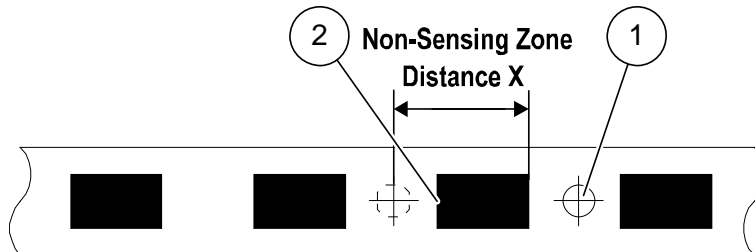

Figure 7-64 Non-Sensing Zone
Step 3: Set the "Non-Sensing Zone" to the value of X shown in Figure 7-64; (Step c in Figure 7-62)
For example, if material belt stays at the position shown in Figure 7-64 and the "Non-Sensing Zone" is set to X, then the borderline detected within the separation distance X is invalid after the borderline from white to black is detected.